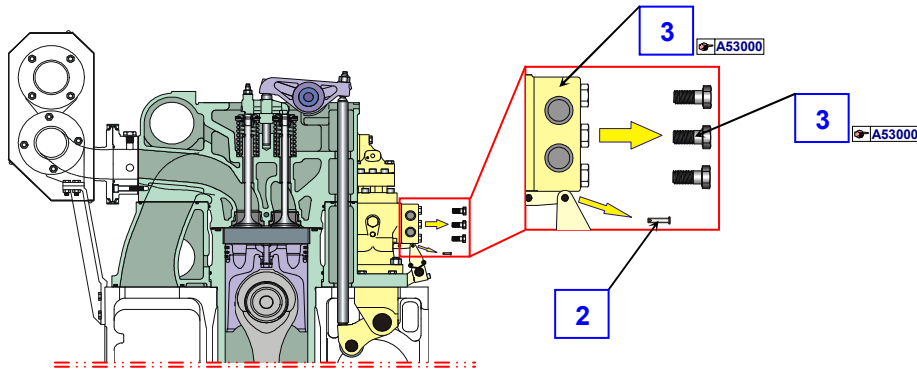

Fig. 1 Take out the connection pin, and loosen the three bolts for fuel feed pipe block
2. Disconnect the fuel rack and the fuel control lever by taking out the connecting pin as shown in fig. 1.